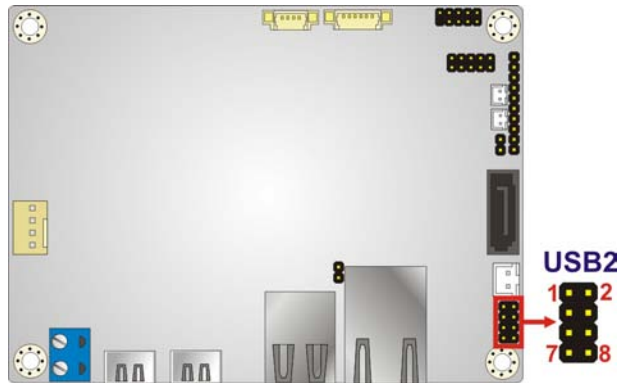

Figure 3-20: USB Connector Location
- CN Location: See **Figure 3-20**